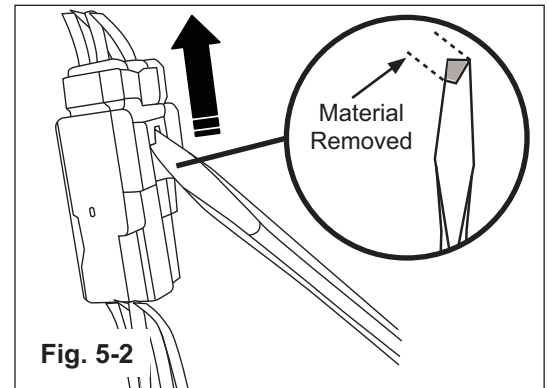

Fig. 5-2
- b) Using screwdriver, remove male portion from OE connector (C82). (Fig. 5-2)